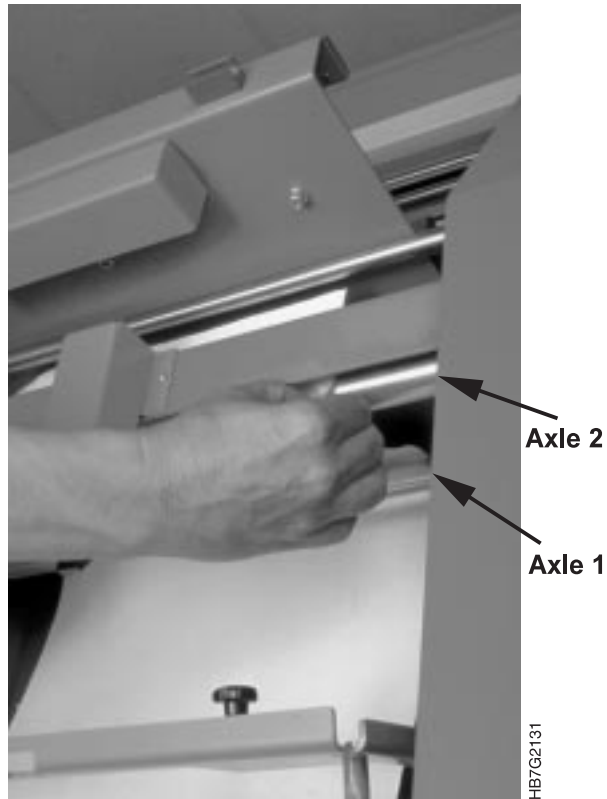
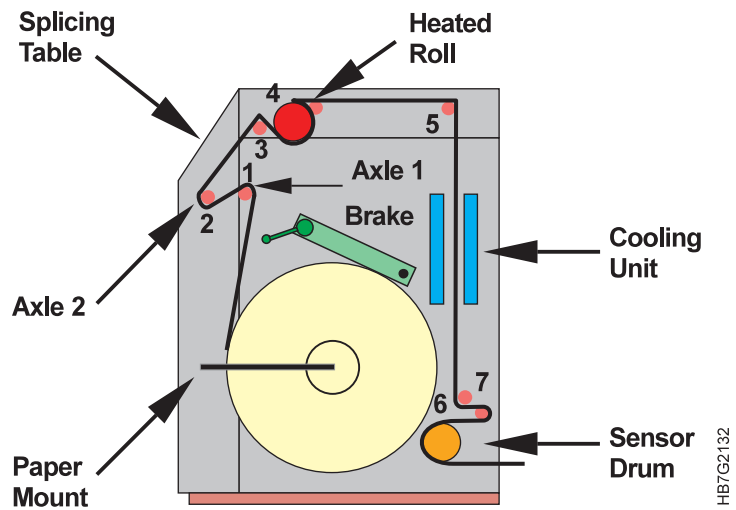

Figure 203. Threading the Paper Roll Supply
Figure 204. Paper Path in the PRS
- 8 Pull the end of the paper roll over axle 1 and under axle 2 in an upward direction and insert the paper through the gap under the splicing table, as shown in Figure 203 on page 285 and Figure 204 on page 285.